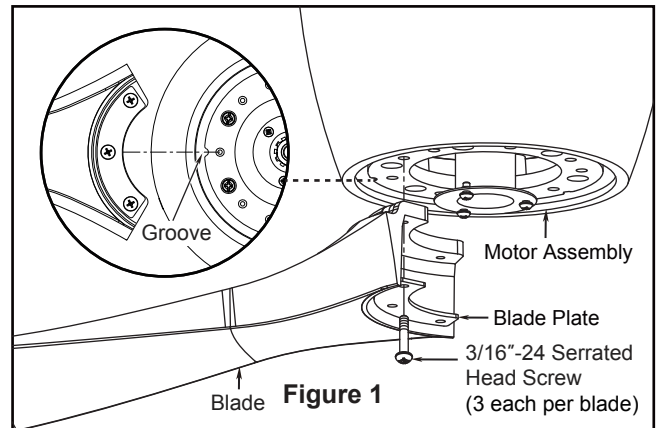

Figure 1
1. Secure the blades to the bottom of the motor assembly using the 3/16"-24 serrated head screws and blade plates. Be sure the groove in the flywheel is lined up with central hole on the blade. (Figure 1)